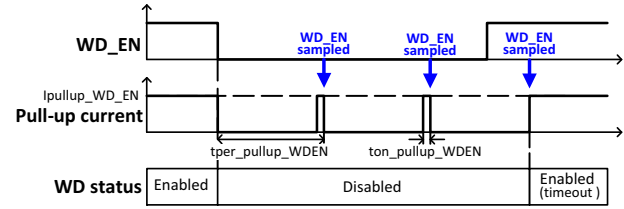

Figure 14. WD\_EN pull-up current source activation
- ◆ Temperature (see Figure 14)